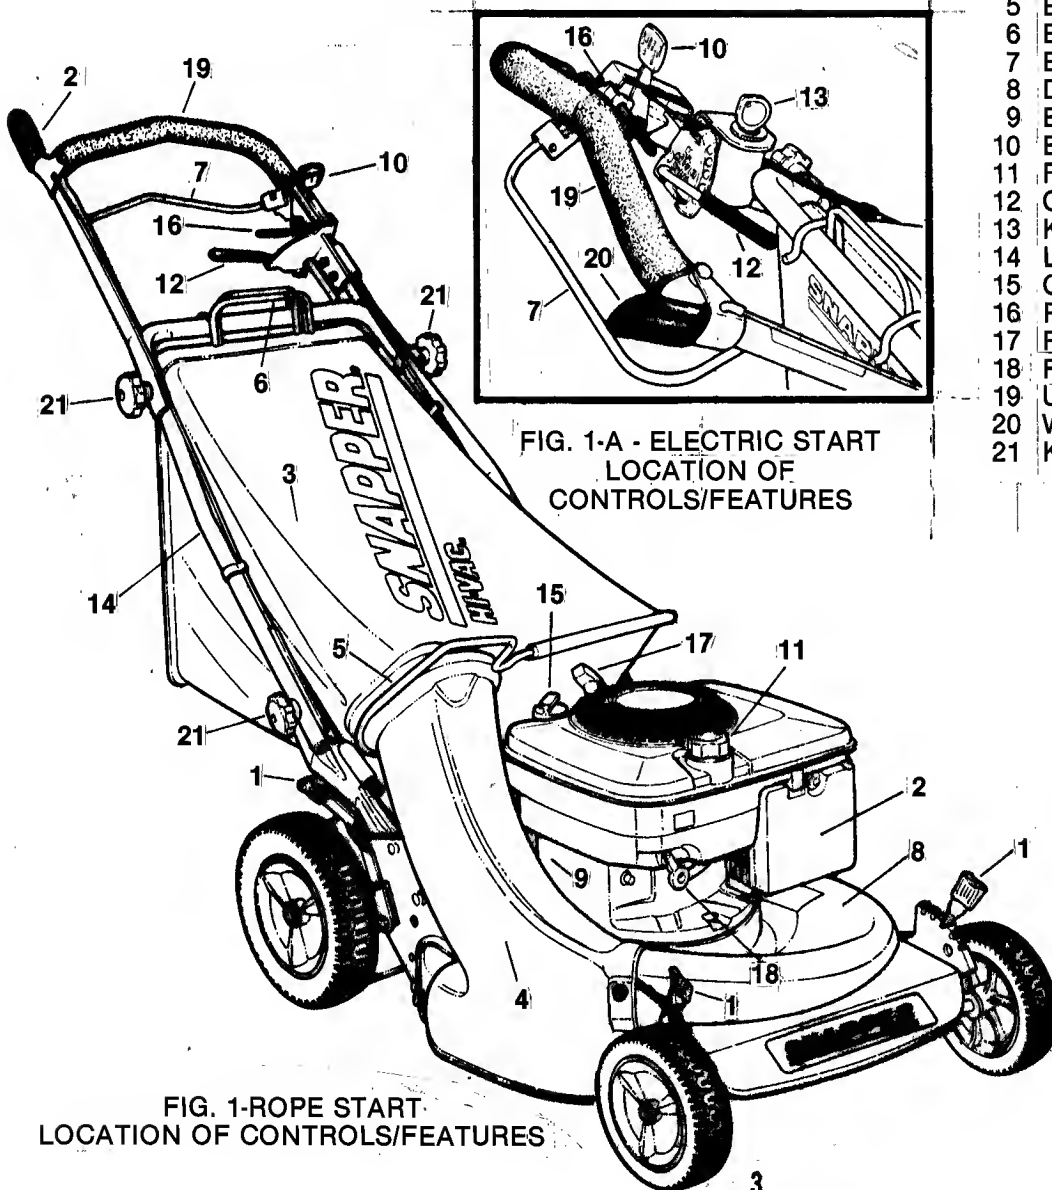

FIG. 1-A - ELECTRIC START
The blade is stopped by releasing the BLADE CONTROL (7). Stop the engine by pulling the ENGINE CONTROL lever (10) rearward to the STOP position. Releasing the WHEEL DRIVE control (20) stops the forward movement of the mower. Refer to FIG. 1 for locations of controls.
Open **SHUT-OFF VALVE** (18) If the engine is so equipped (refer to FIG. 1). Push the primer button (if so equipped) if the engine is cold.